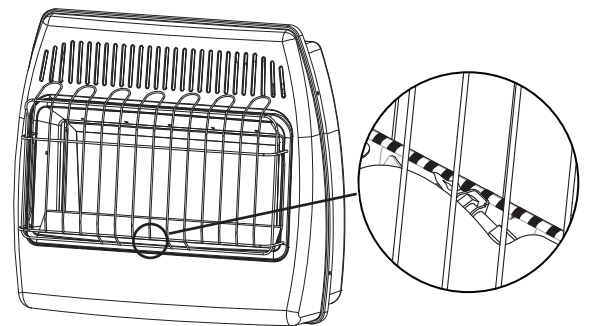

Fig. 24 - Pilot Flame Location
6. With control knob depressed, push down on the ignitor button until the pilot lights. The pilot is visible centered below the main burner, behind the front grill.. (See Fig. 24 on page 19)
7. Keep control depressed for (30) seconds after pilot lights. Release control knob.
6. With control knob depressed, push down on the ignitor button until the pilot lights. The pilot is visible centered below the main burner, behind the front grill.I. (See Fig. 24)